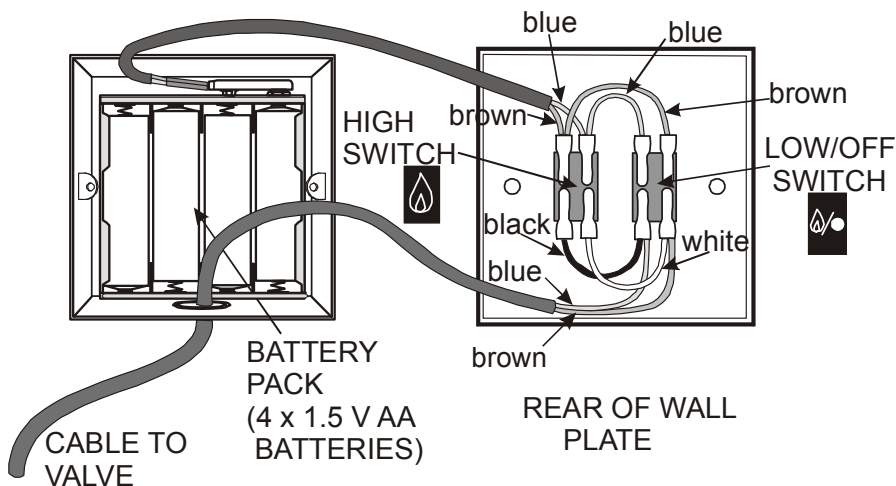

Figure 46
3. Make the connections on the wall switches as shown in **Figure 46**.